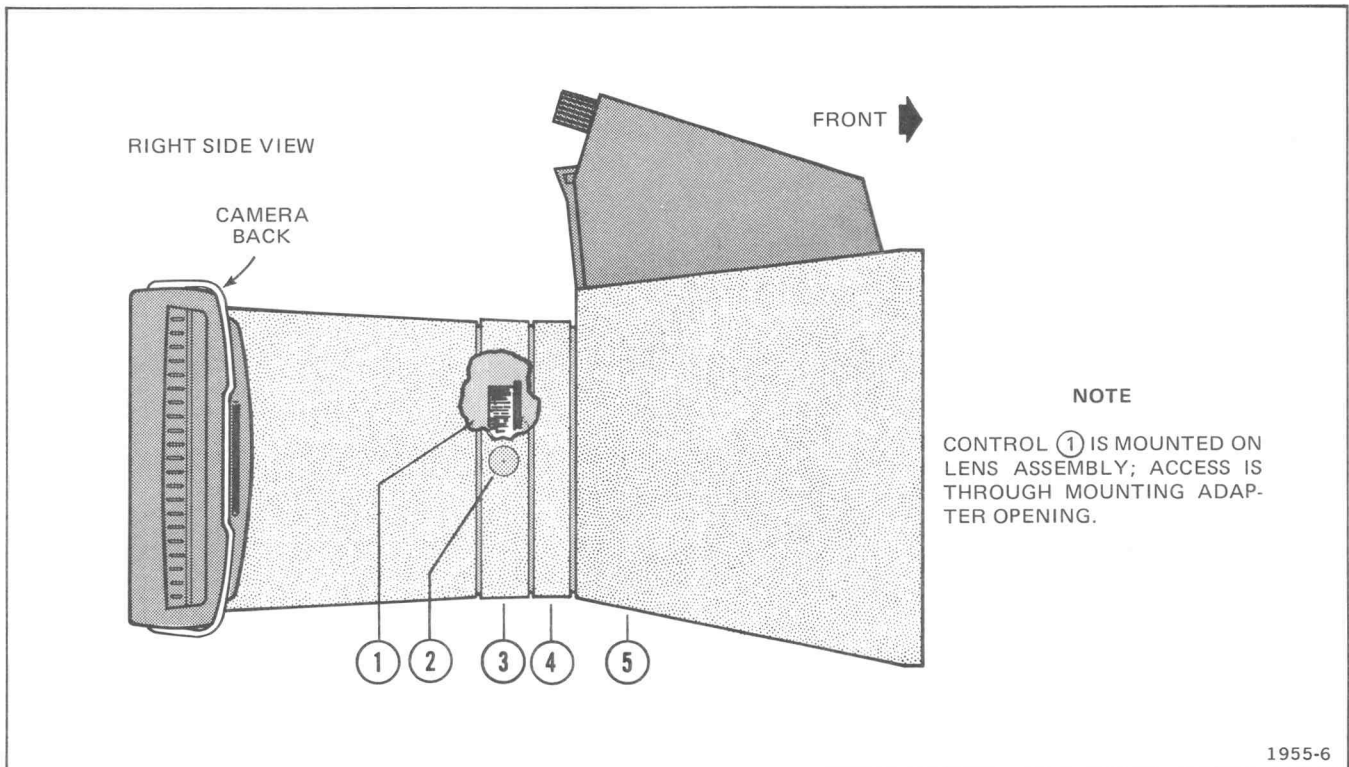

Fig. 2-1. Camera control locations.
Camera (Fig. 2-1)
- ① **Speed Selector (mounted on the lens section).** Controls the time that the shutter admits light to the optical system. The speeds are Time (T); Bulb (B); and 1/5, 1/10, and 1/25 second.
- ② **SHUTTER Button.** Actuates the shutter, which admits light to the optical system. In the Bulb (B) position of the Speed Selector, the shutter is opened when the button is pushed, and closed when released. In the Time (T) position of the Speed Selector, the shutter is opened by pushing and releasing the button once, and closed by pushing and releasing it a second time.
- ③ **Lens-Shutter Housing.** See description of Magnification Spacer.
- ④ **Magnification Spacer.** The positions of the Lens-Shutter Housing and Magnification Spacer determines the magnification factor of the camera. When the Magnification Spacer is farthest from the camera back, as shown in Fig. 2-1, the factor is 0.67. When the spacer is between the camera back and the Lens-Shutter Housing, the factor is 0.85.
- ⑤ **Camera-Mounting Adapter.** Used to mount the camera on the instrument to be photographed.
- b. Figure 2-1 and its text identify the correct position for the lens-shutter housing and magnification spacer sections.